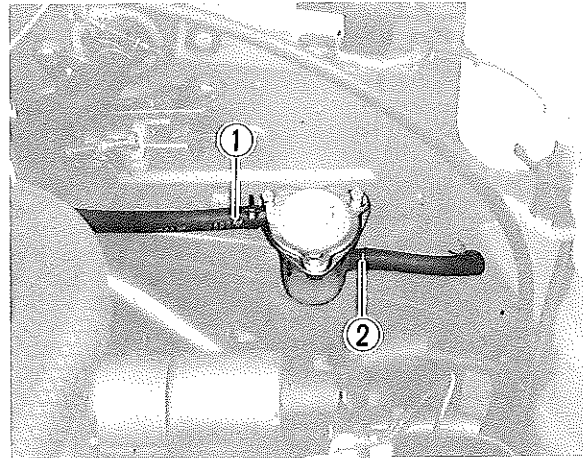

Fig. 6-15
Fig. 6-15, shows the fuel filter in its correct posture, with outlet ① coming on top side and inlet ② on bottom side. Remember the relative positions of inlet and outlet when piping the filter.